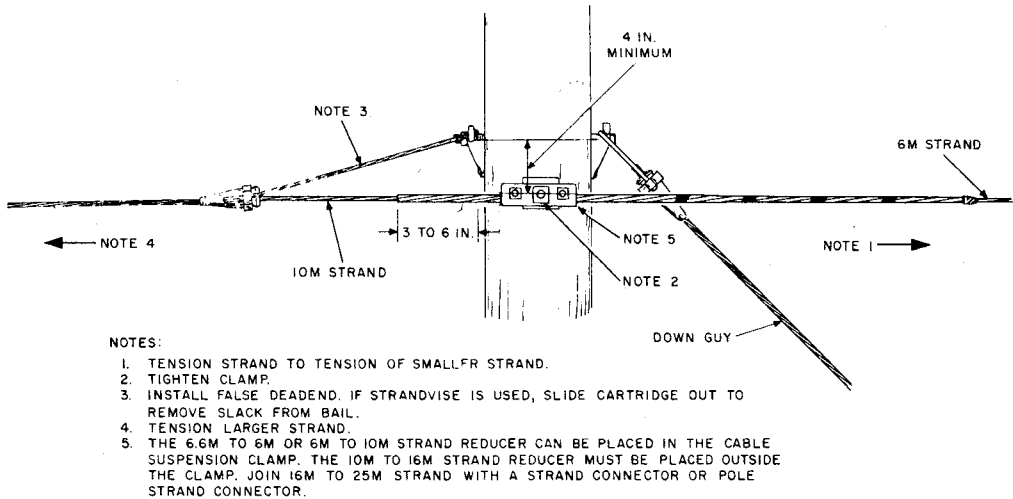

Fig. 1—False Deadend (Strand Diminishing Point)
1.06 A representative installation of a false deadend and the *proper sequence for tensioning strand at a strand diminishing point* is illustrated in Fig. 1.